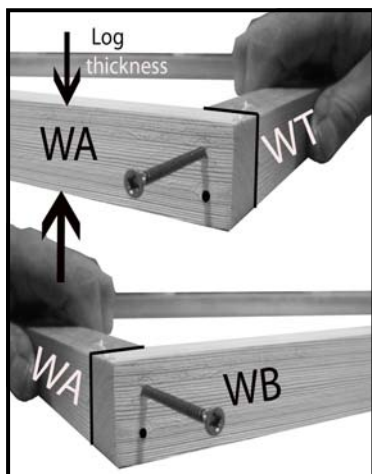

Fig A1
4. Lay out the parts **WA** and **WB** and **WT** as in the inner frame assembly drawing. The narrowest (25mm) edge to the work bench and the side the size is the same as the log thickness as shown in fig A1. Part **WT** must be inside parts
5. **WA** and part **WB** underneath the two **WA** parts (Fig A1).
6. Pre drill 2 3mm holes at one end of the **WA** only and at both ends of the **WB** parts ( see drawing )and screw together at each corner, 10mm in from the edge (ensuring each corner is flush) with 2x50mm screw (fig A1).